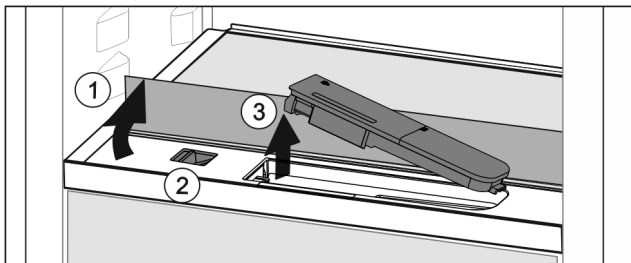

Fig. 104
- ▶ Lift the glass panel and fold towards the rear until it clicks into place Fig. 104 (1).
- ▶ Slide the slider Fig. 104 (2) to the left.
- ▶ Remove the water tank Fig. 104 (3).